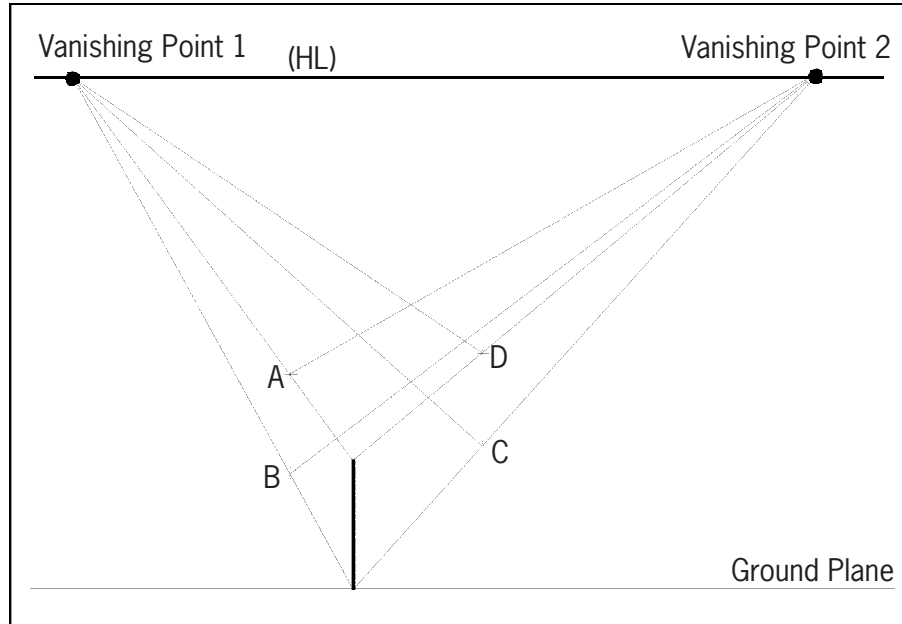

Figure 6
3. (a) Now mark off another edge of the block on the construction lines going to vanishing point 2 at C and D as in Figure 6.